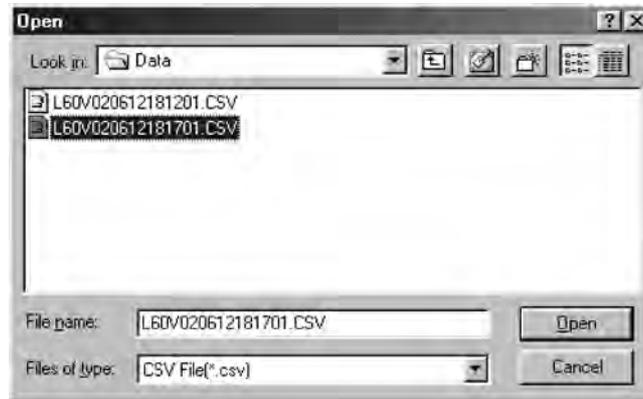

Fig. 62
5. Select the file containing the saved graph data that you want to view, and then click the **Open** button. (Fig. 62)